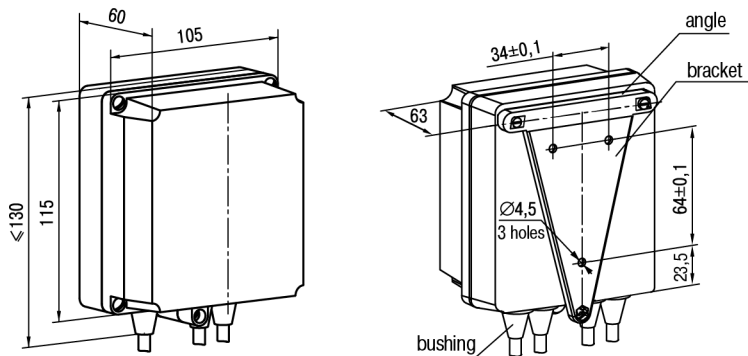

Figure 4.2 – Dimensions of housing H
1. Fasten the bracket with three M4 × 20 screws on the surface intended for mounting (see *Figure 4.2*).